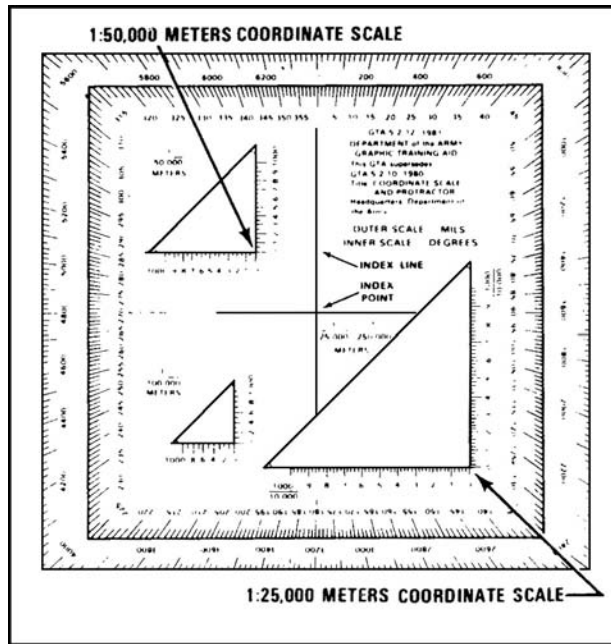

Figure 071-329-1002-4. Plotting scale
- a. Locate the grid square where the point is located, for example, Point A (figure 071-329-1002-5; this point should already be plotted on the map.)